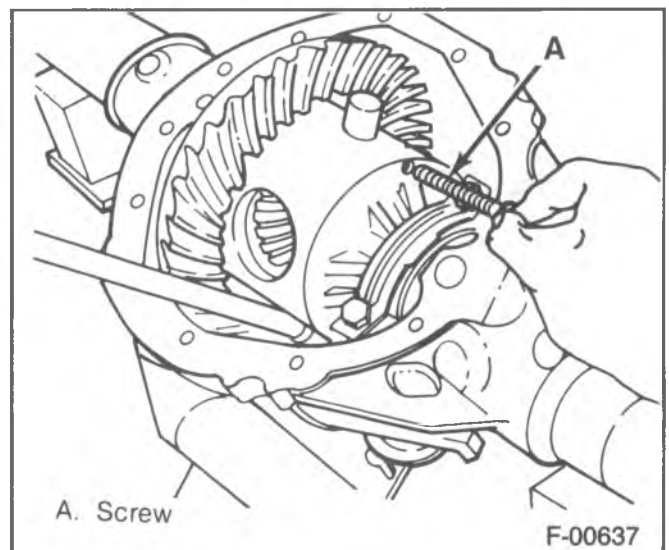
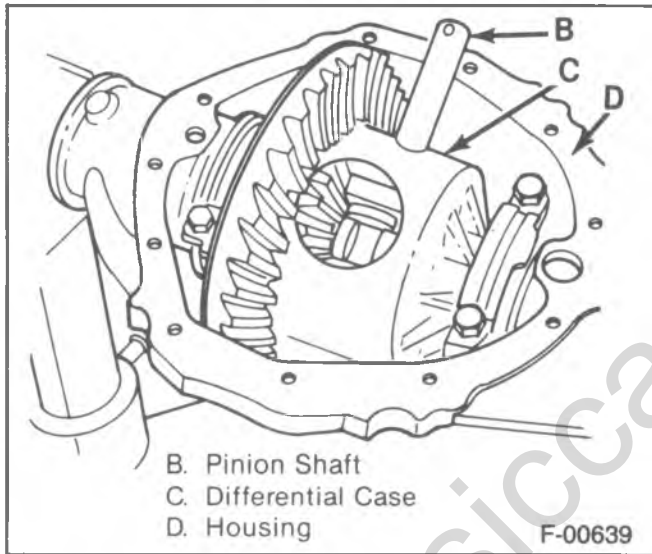
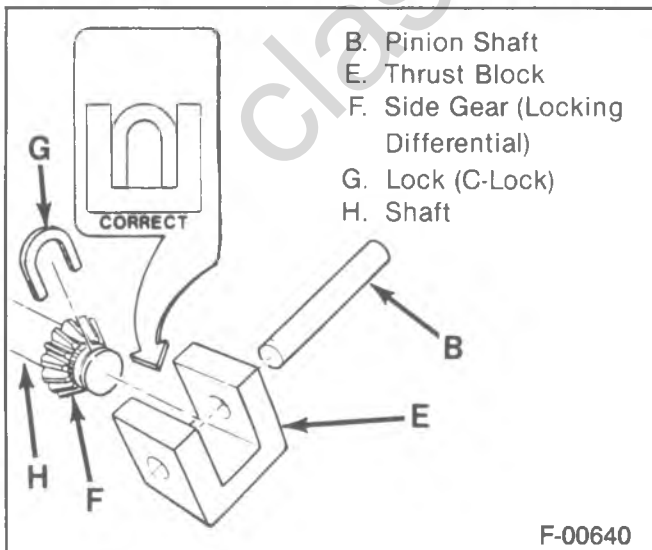

Figure 7—Removing the Lock Screw
Figure 9—Positioning the Case for Best Clearance
Figure 10—Aligning the Lock
3. Carrier cover (19).
4. Screw (A) (figures 7 and 8).
5. Pinion shaft (B).
- With a locking differential remove the shaft (B) part way and rotate the case until the pinion shaft touches the housing (figure 9).
- Use a screwdriver or similar tool to enter the case and rotate the lock until it aligns with the thrust block (figure 10).
- Slide the axle shaft (12) into place allowing the splines to engage the differential side gear (F) figure 10.
4. Lock (13).
- Place the lock on the button end of the axle shaft (12), then pull the shaft flange outward to seat the lock in the differential side gear.
- Keep the pinion shaft partially withdrawn (figure 9).
- Place the lock in the position shown in figure 10. Pull the shaft flange outward to seat the lock in the differential side gear.